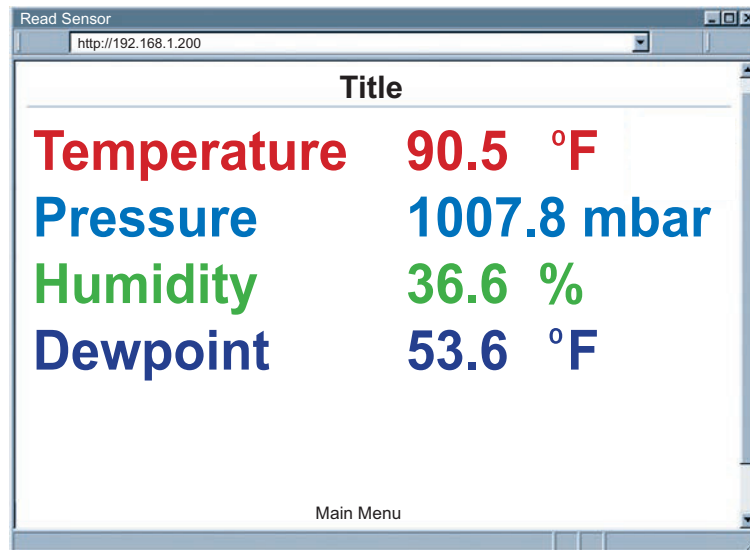

Figure 19: Read sensor
Step 1: Click on the **Read Sensor** button. In a few seconds the following page (**Figure 19**) will appear with all default values of 100.00. Then the actual readings of Temperature, Pressure, Humidity and Dewpoint will display.